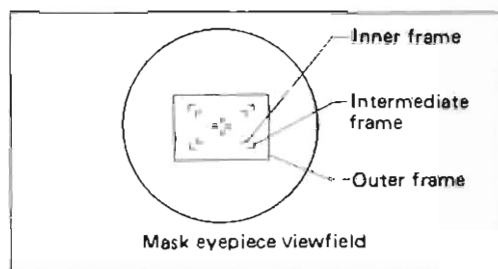

Fig. 22
- (2) Turning the eyepiece as a whole, set it in such a position that the photo mask appears as shown in Fig. 22.